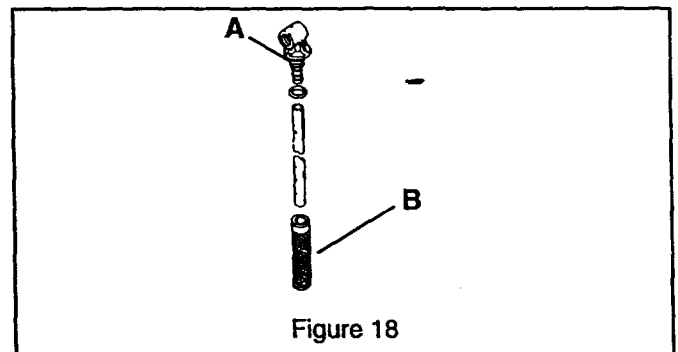

Figure 18
CLEAN /REPLACE FUEL TANK FILTER (FIG.18)
- Remove fuel connector (A) from fuel tank (Figure 18).
- Remove fuel filter (B) from bottom of pick-up tube.